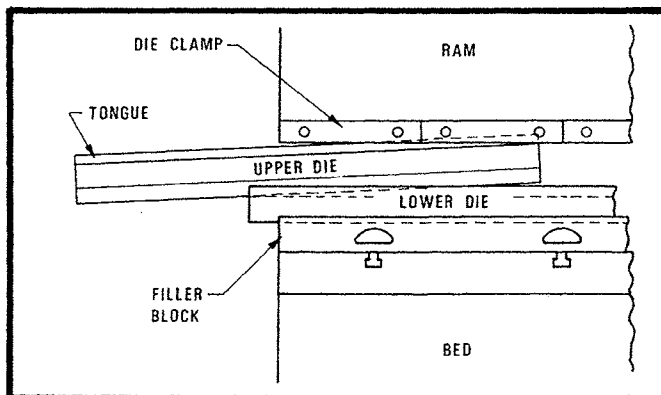

FIGURE 29
6. Rest the upper die on extended portion of lower die. Make sure tongue of upper die is in the ram nose slot and that the upper die is trapped by the lower die and ram die slot. See Figure 29. Then slide upper die into lengthwise position with the lower die. Slide the set of dies into a centered position on filler block. Tighten the filler block set screws to lock lower die.